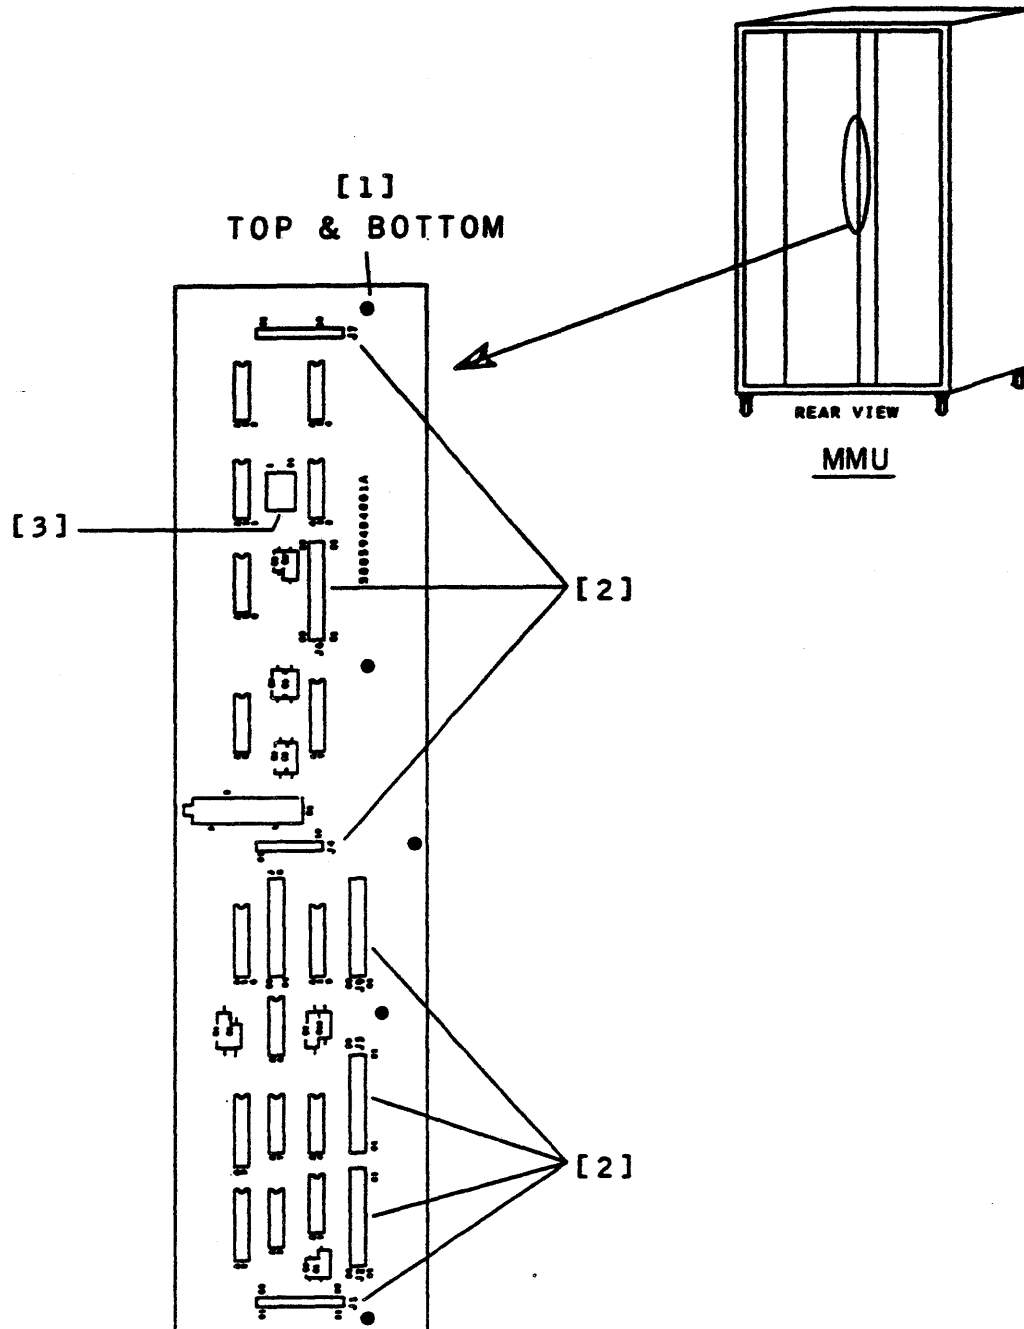

FIGURE 2.15-1. OSCILLATOR BOARD REMOVAL/INSTALLATION
5. Disconnect oscillator board connector plugs P1 through P7 (Figure 2.15-1, [1]).
7. Using cross-tip screwdriver, remove retaining hardware and oscillator board (Figure 2.15-1, [2]).
8. On replacement board, set DIP switch (S01) to reflect identical setting as used by faulty oscillator board (Figure 2.15-1, [3]).